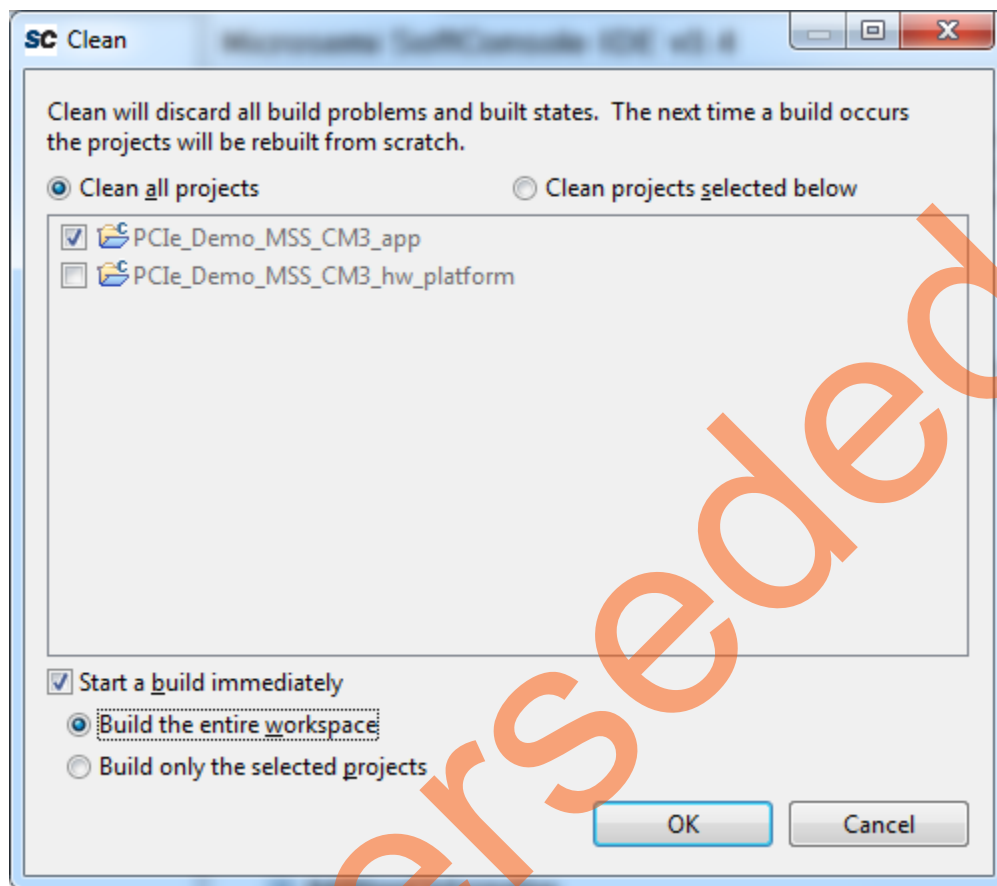

Figure 36 • Clean and Build SoftConsole Projects
11. The **Clean** window is displayed. Click **OK** to build the SoftConsole projects as shown in Figure 36.